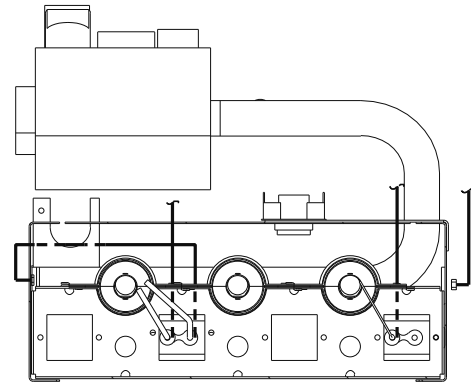

Fig. 3 – Two-Stage Igniter, Flame Sensor, Orifice/Main Burner Relationship
14. Remove the propane gas orifices from the manifold using a 9/16 in. wrench and install the correct natural gas orifices in the manifold (see Table 4 to select correct orifice size based on rated input. See Fig. 3 and Fig. 6 for orifice installation).
22. Verify igniter, flame sensor, orifice/main burner relationship prior to completing conversion. (See Fig. 3.) Partially slide burner rack assembly into unit.
26. Reconnect the remaining wires removed in Step 5 to the gas valve. Connect the gray wires to (HI). Connect the blue wires to (M). Connect the brown and green/yellow wires to (C).